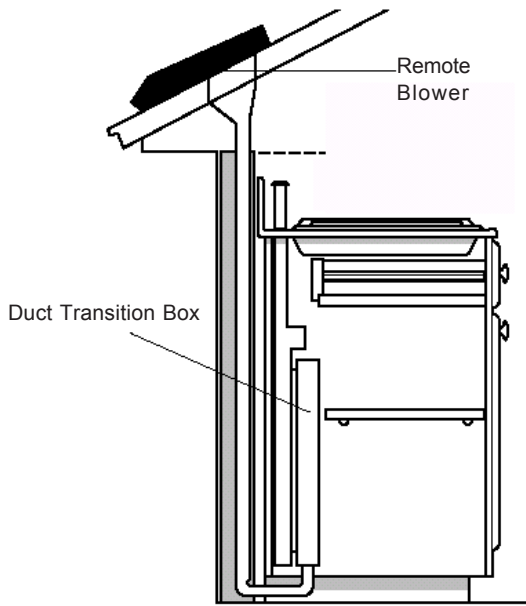

Figure 3
F. Investigate potential ductwork routes and choose the shortest possible route from the unit to an outside wall or to the roof via an inside wall and attic. For guidance, typical ducting installations are shown in figures 3 through 6. Installation in island locations will require ducting under floor ducting. Peninsula locations usually require ducting laterally through cabinets or under cabinet toe-spaces. Consider potential interferences to ductwork from building framing (floor joists, wall studs, etc.) and utilities (electrical wiring, water, gas, or sewer lines, etc.).
Figures 3 through 6 are examples of possible ducting